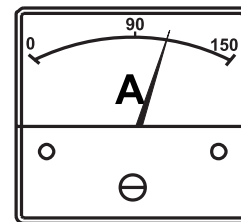

Figure 55. Ammeter (Load)
13. Observe the generator's ammeter (Figure 55) and verify it reads the anticipated amount of current with respect to the load. The ammeter will only display a current reading if a load is in use.